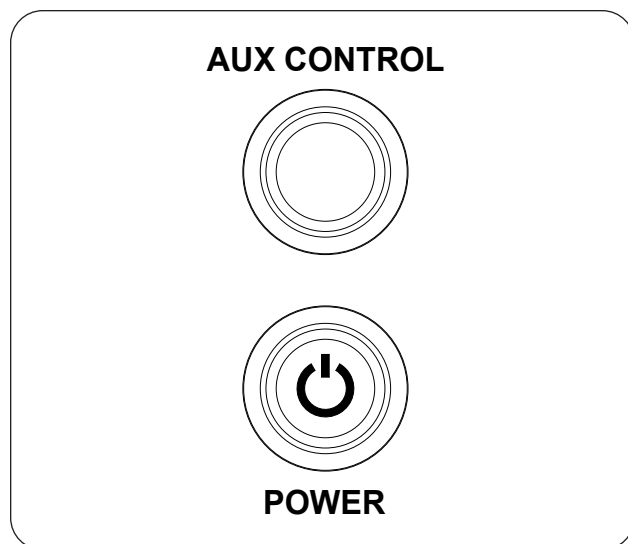

Fig. 39-1 Manual Operation:
1. Locate the **POWER** button on the control panel, and push it (see Fig. 39-1). The light will illuminate indicating the system is on and ready.
2. Locate the **AUX CONTROL** button on the control panel, and push it (see Fig. 39-1). The light will illuminate and the burner ignition sequence will begin.
To shut down the burner (system will remain on), push the **AUX CONTROL** button (see Fig. 39-1).
To shut down the burner and system (total shutdown), push the **POWER** button (see Fig. 39-1).